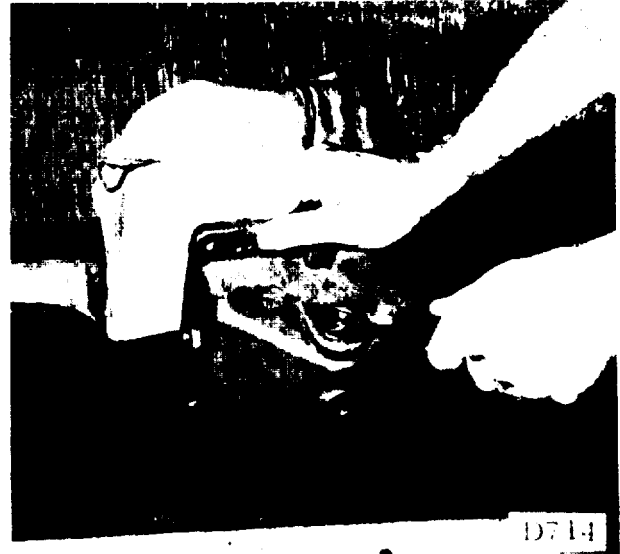

FIGURE 7-58.
(4). Pry the shaft seal out only if necessary (see figure 7-58).